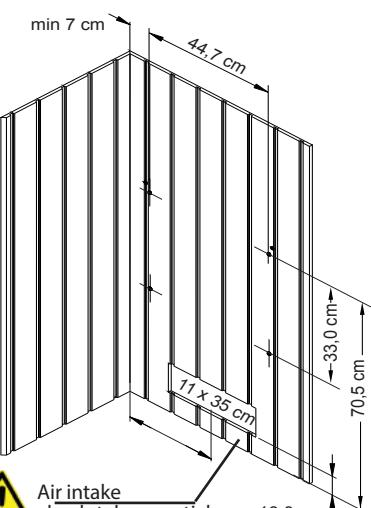

Fig. 2
1. Screw 4 fixing screws acc. Fig. 2 into the cabin wall over the air inlet opening so that there is still 3 mm clearance between the wall and the screw head.